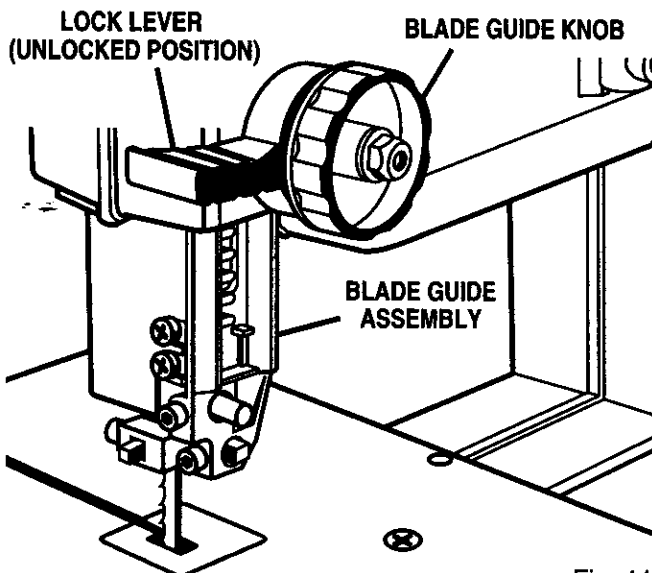

Fig. 11
See Figures 11 and 12.
- From the back of the saw, push the lock lever counterclockwise or to the left 1/4 turn to unlock the blade guide assembly. Use the blade guide knob to position the blade guide assembly about half way between the table and the frame. Return the lock lever to its upright locked position. See Figures 11 and 12.
- From the back of the saw, push the lock lever counterclockwise or to the left 1/4 turn to unlock the blade guide assembly. See Figure 11, page 13.